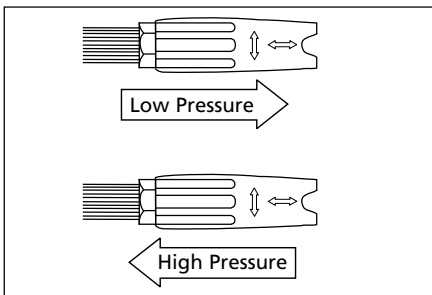

Figure 8 - Adjusting nozzle for pressure
3. Slide nozzle to the low pressure position as shown in Figure 8 and apply the detergent so that it thoroughly covers the cleaning surface.
3. To draw soap/detergent, release the trigger and slide the nozzle into the low pressure position (See Figure 8). Detergent suction will function ONLY with the nozzle in low pressure position. This also allows detergent application without heavy loss to over-spray.